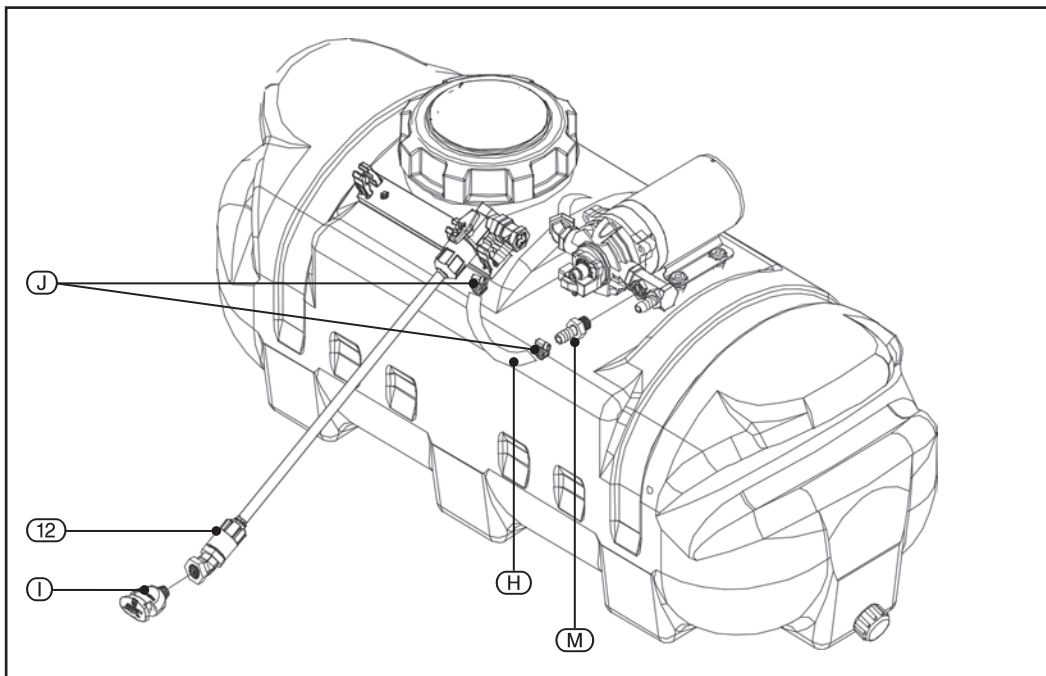

FIG. 10
9.8 FINISH BROADCAST KIT ASSEMBLY – FIG.10